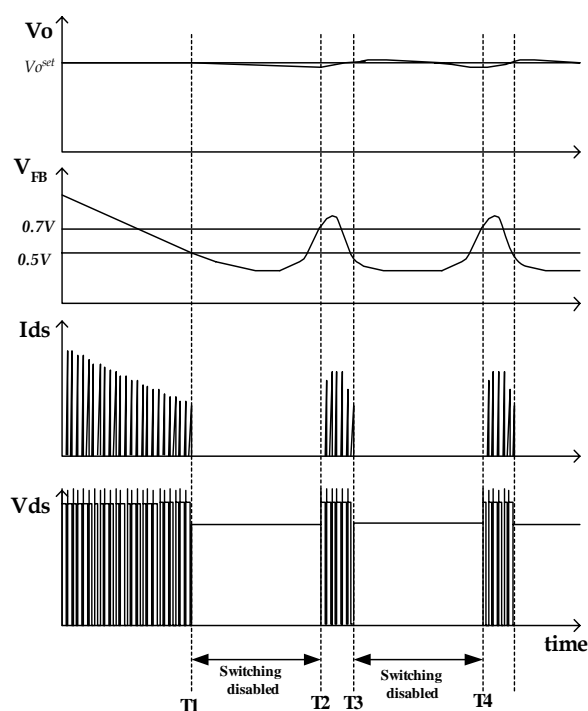

Figure 8. Waveforms of burst operation
**5. Burst operation :** In order to minimize power dissipation in standby mode, the FSDM0565RB enters burst mode operation. As the load decreases, the feedback voltage decreases. As shown in Figure 8, the device automatically enters burst mode when the feedback voltage drops below  $V_{BURL}(500mV)$ . At this point switching stops and the output voltages start to drop at a rate dependent on standby current load. This causes the feedback voltage to rise. Once it passes  $V_{BURH}(700mV)$  switching resumes. The feedback voltage then falls and the process repeats. Burst mode operation alternately enables and disables switching of the power Sense FET thereby reducing switching loss in Standby mode.